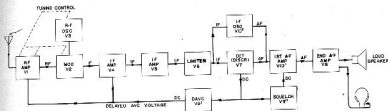

Fig. 24. Radio Receiver BC-683-A: Block Diagram
a. General Circuits Used. A block diagram of Radio Receiver BC-683-A is shown in Fig. 24.